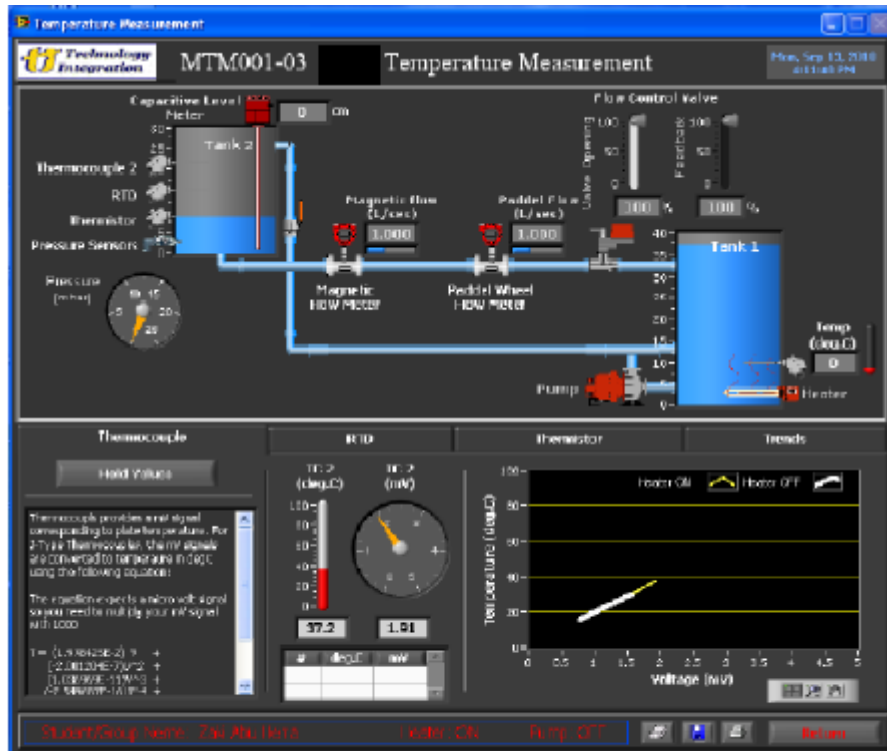

Figure 1: Temperature Measurement Window
1. Open the "MT001-003 Level Measurement" window as shown in figure 1.